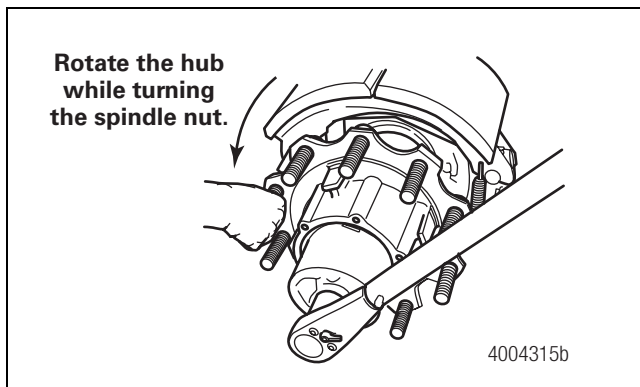

Figure 4.18
7. Tighten the spindle end nut to 810-850 lb-ft (1100-1150 N•m) while rotating the wheel and hub in a COUNTERCLOCKWISE direction. Do not back off the nut after tightening. Mark the nut location relative to the spindle. Figure 4.18.